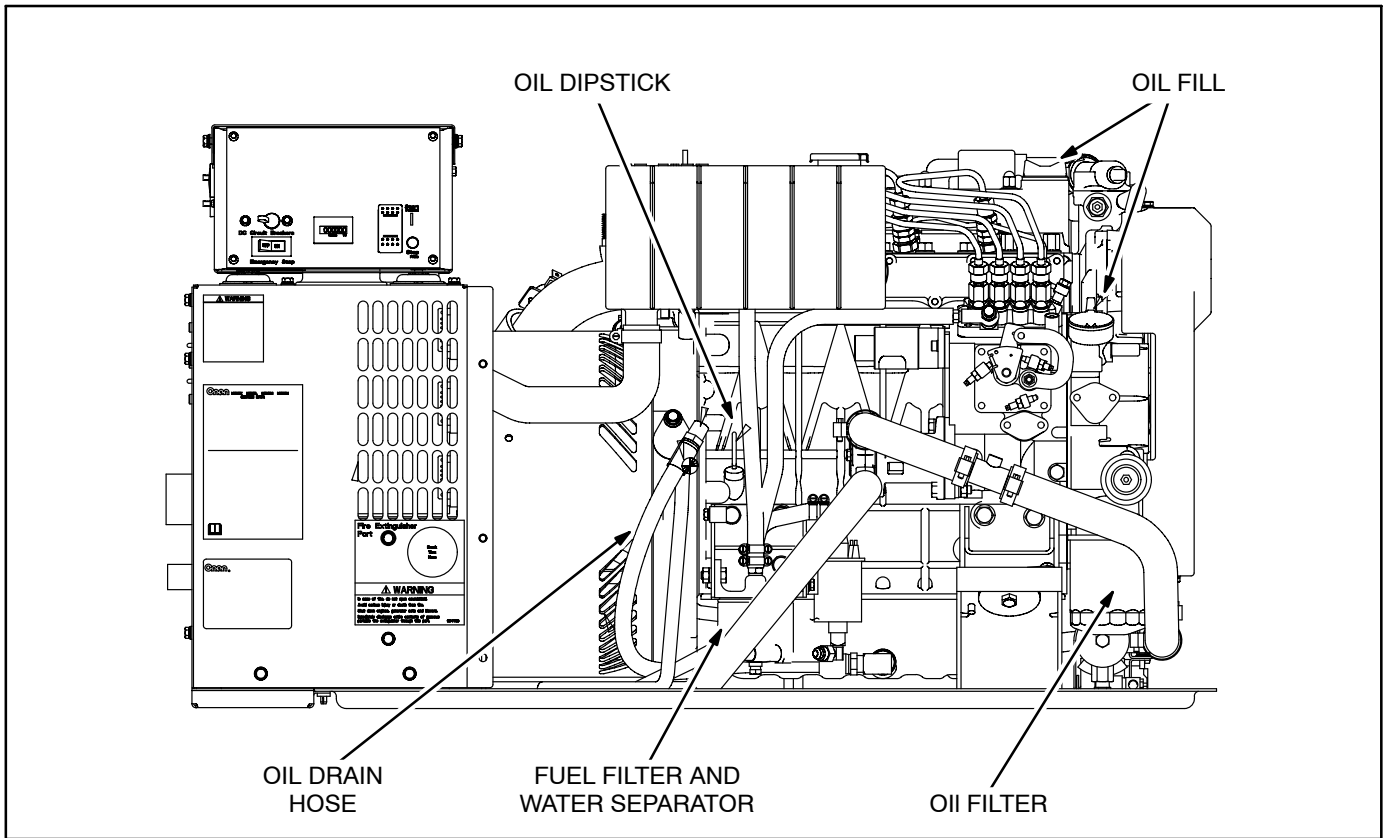

FIGURE 4-1. OIL AND FUEL SERVICE POINTS—MDK BK, MDK BL, MDK BM, MDK BN
Shut off the generator set and check the oil level with the dip stick (Figure 4-1, 4-2 or 4-3). Add or drain oil as necessary. Add 1 quart (0.9 liters) when the level falls to the ADD mark. Drain oil if the level is above the full mark.
2. Be ready to drain the oil into a suitable container and then open the drain valve or unscrew the plug on the end of the drain hose (Figure 4-1, 4-2 or 4-3) and drain the oil into a suitable container. (Two wrenches are necessary to keep from twisting the hose when loosening and tightening the plug.) If an oil pump-out system is installed, follow the instructions provided.
Draining Water and Sediment: The generator set may have a water-separator type of fuel filter (Figure 4-1, 4-2). Also check for up-stream water-separator type fuel filters. Drain water and sediment more often than scheduled (Table 4-1) if fuel quality is poor or condensation cannot be avoided. Dispose of the water, sediment and fuel drained off in accordance with local environmental regulations.
Replacing Fuel Filters: See Table 4-1 for scheduled fuel filter replacement. Replace fuel filters (Figure 4-1, 4-2 or 4-3) if the engine lacks power.